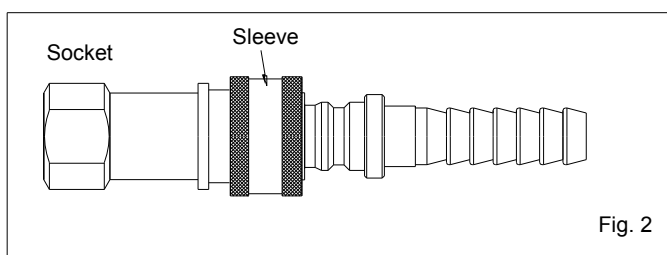

Fig. 2
2. Insert plug and release sleeve (Fig. 2).